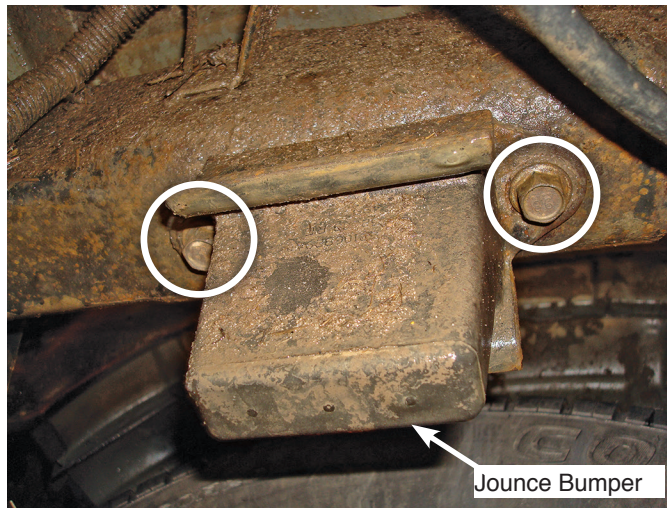

fig. 3
3. Remove the jounce bumper from under the frame rail (fig. 3).